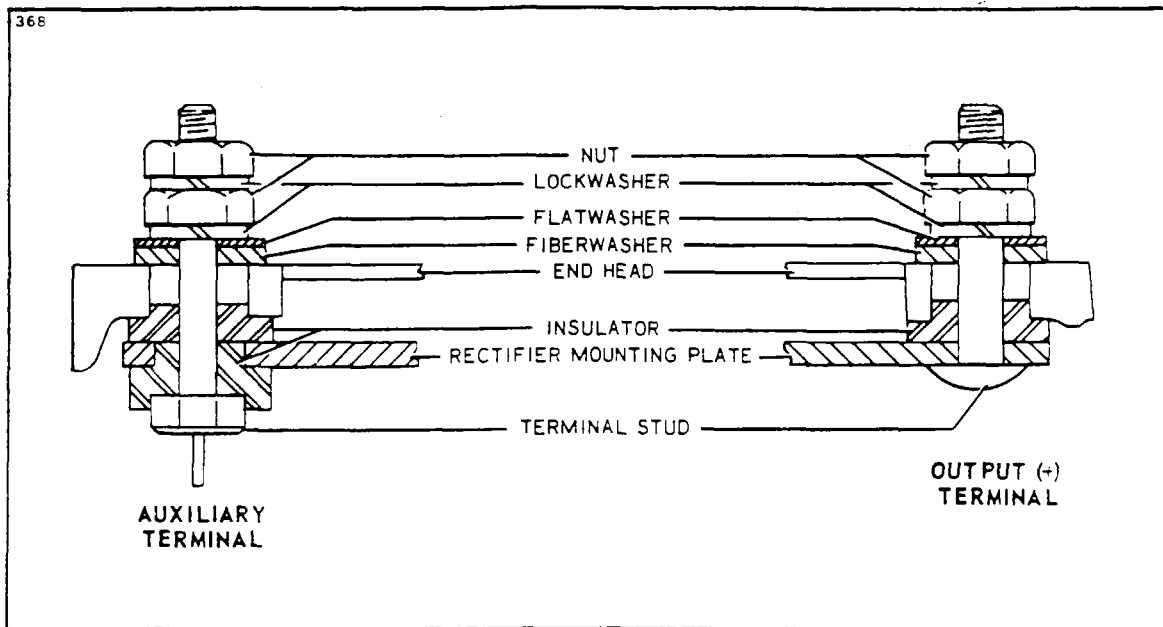

Figure 10-24j. Terminal Assembly
c. Reassemble the rectifier mounting plate studs and insulators, making sure they are in the correct order. (Refer to Figure 10-24j.)